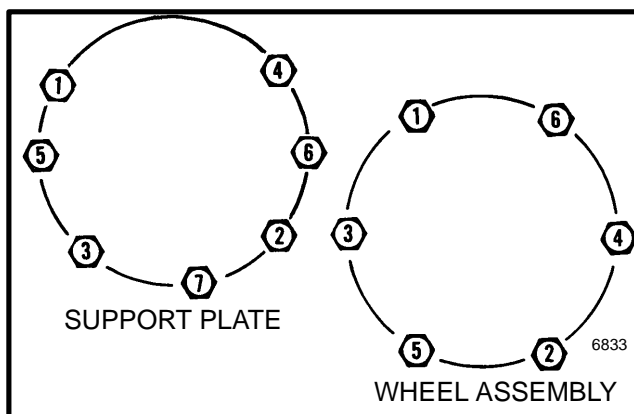

FIGURE 4. TIGHTENING SEQUENCE
2. Install the back plate and support flange. Install the tapered dowels. Use the sequence shown in FIGURE 4, and tighten the nuts to 54 to 81 N.m (40 to 60 ft lb). Use the same sequence and tighten the nuts to 108 to 131 N.m (80 to 90 ft lb).
8. If the brake drum was removed, install the brake drum on the hub. If the drum fastens to the inside of the hub, tighten the inside nuts to 300 to 325 N.m (220 to 240 ft lb). Use the sequence shown in FIGURE 4. Tighten the nuts that hold the wheel to the hub and brake drum assembly to 610 to 678 N.m (450 to 500 ft lbs). On models with dual wheels, tighten the spacer nuts to 610 to 678 N.m (450 to 500 ft lbs).